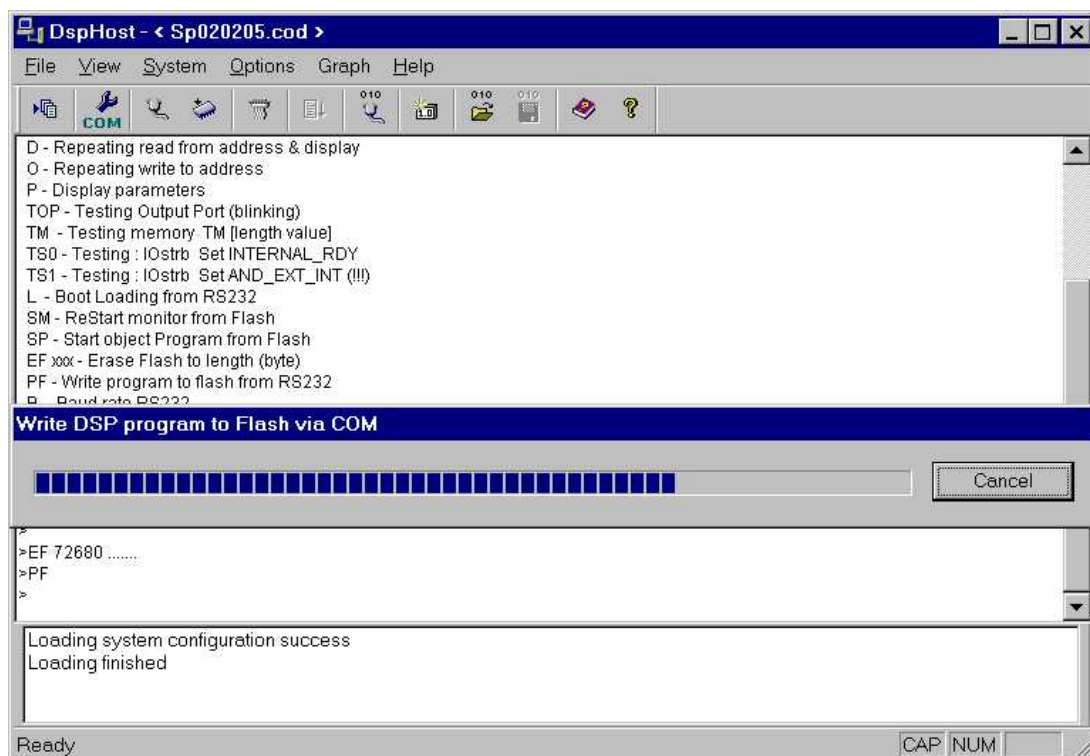

Figure 6.8 Download process of DSP program
- (d) After the download process (Fig.6.8), the program should be in the DSP flash memory. Now you can turn LMDX off and on again or you can issue the SP command to run the downloaded DSP code.